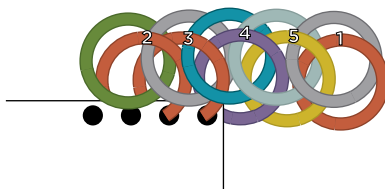

FIG. 9
16. Thread the remaining open (white) jump ring through the base-row (orange) jump ring just added, moving right to left from behind it. Then thread the open jump ring through the adjacent base-row (yellow) jump ring, moving left to right from the front. Close the open jump ring (**FIG. 9**).